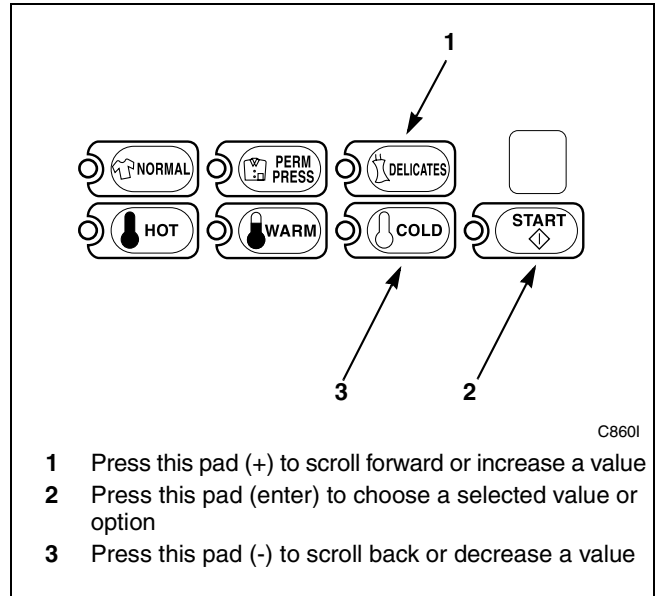

Figure 176
6. Press the DELICATES (+) or the COLD (-) keypad to increase or decrease the current number until correct. Refer to *Figure 176*.